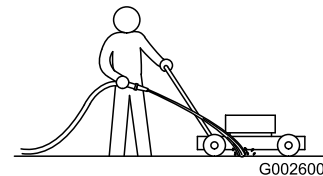

Figure 44
1. With the engine running on a flat paved surface, spray a stream of water in front of the right rear wheel (Figure 44).